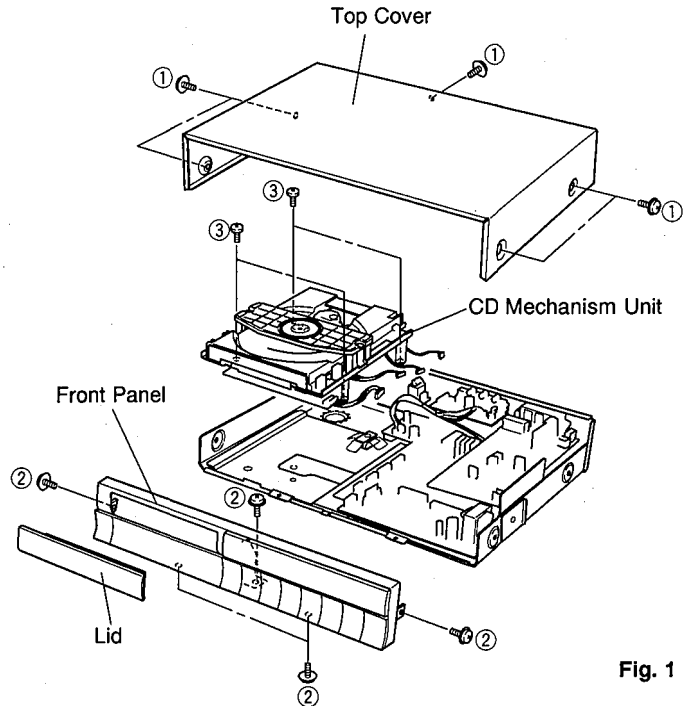

Fig. 1
- ① P.C.B. DSP
- ② P.C.B. VOLUME (2)
- ③ P.C.B. VOLUME (1)
- ④ P.C.B. AMP (2)
- ⑤ P.C.B. AMP (1)
- a. Remove 5 screws (①) and 3 screws (②) in Fig. 1.
- c. Remove 5 screws (②) and then pull the Front Panel forward in Fig. 1.
- b. Remove 4 screws (③) in Fig. 1.